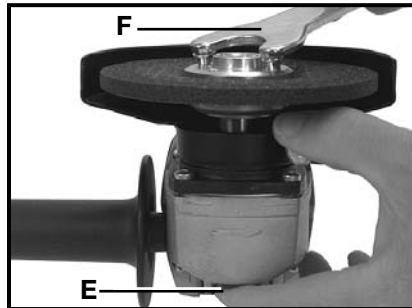

Fig. 7
7. Depress spindle lock pin (E) Fig. 7, and hold while rotating grinding wheel clockwise by hand until spindle lock engages.
8. Continue holding spindle lock pin engaged while placing lugs of spanner wrench (F) Fig. 7, into holes of outer flange. Tighten securely by turning clockwise.